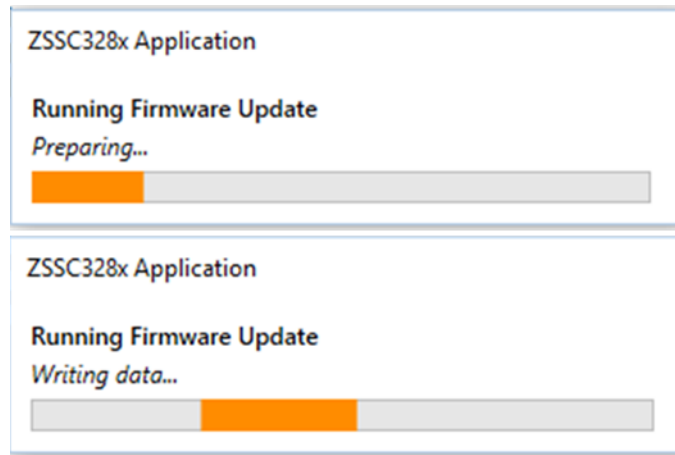

Figure 194. FW Update Operation
2. Click the “Start Firmware Update” button. The ‘ZSSC328x Application’ window pops-up (see Figure 194)